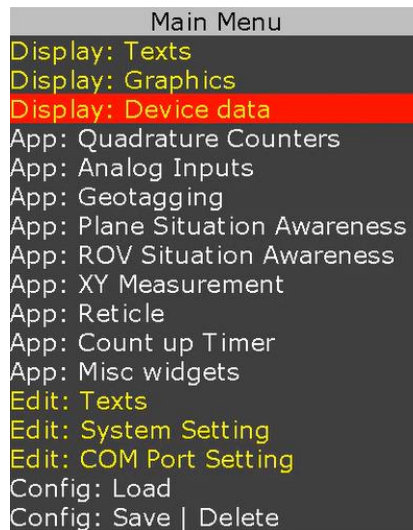
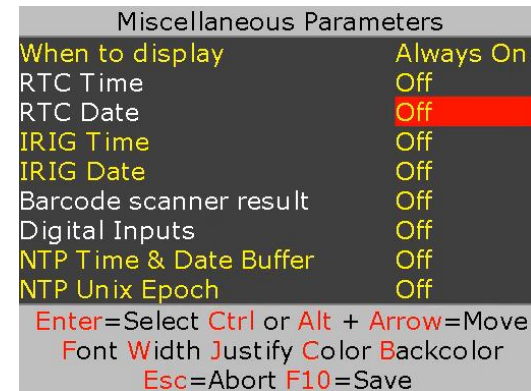

Figure 3
Figure 5
2. Follow Figure 3 - Figure 5 to insert the desired parameter
3. On Figure 5, use \updownarrow arrow keys to select “RTC Time”